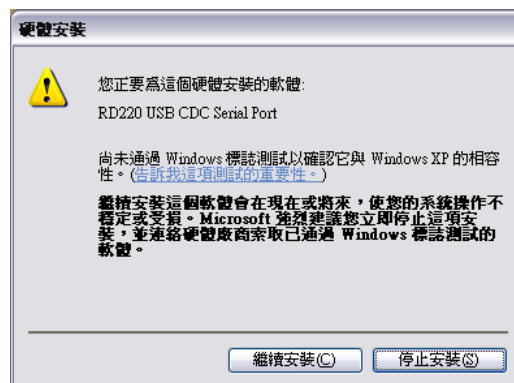

Figure 6 Click "Continue Anyway"
5. Windows ask to ensure installation the driver from SIC as shown in Figure 6; please click "Continue Anyway".